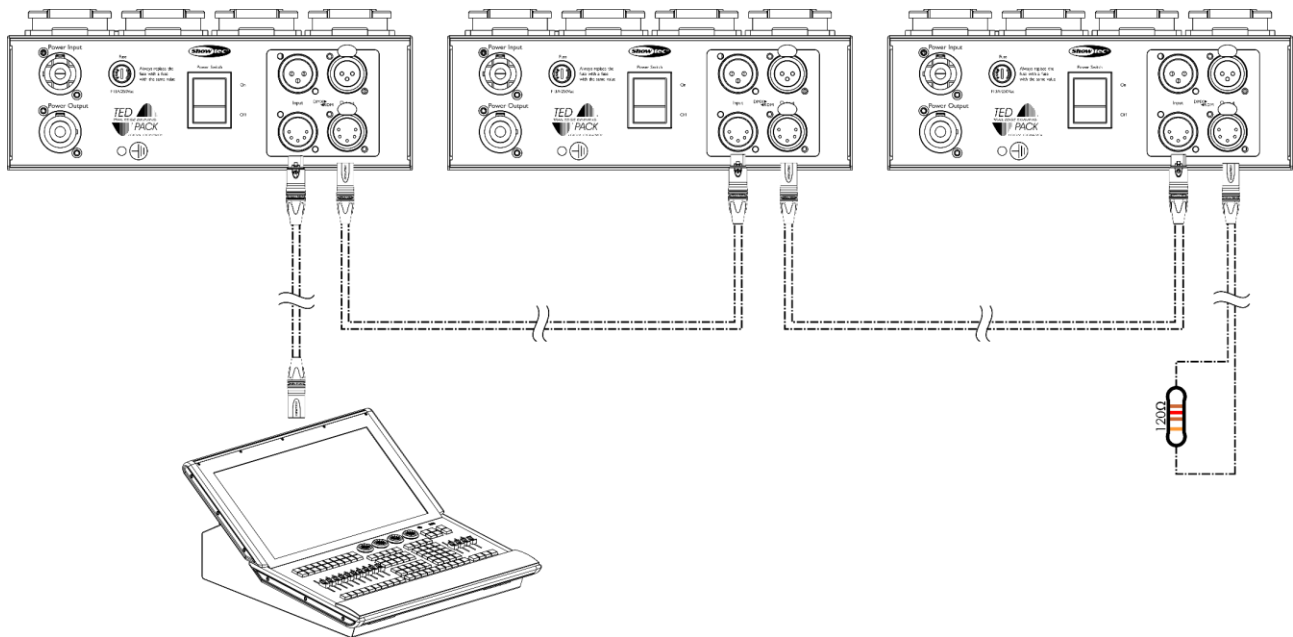

Fig. 11
- 01) Use a 3-pin/5-pin DMX cable to connect the DMX OUT connector of the lighting controller to the DMX IN connector of the first device. The **DMX LED indicator (A)** on the **control panel (02)** lights up.
- 03) Repeat step 2 to connect all devices in a daisy-chain as shown in Fig. 11.